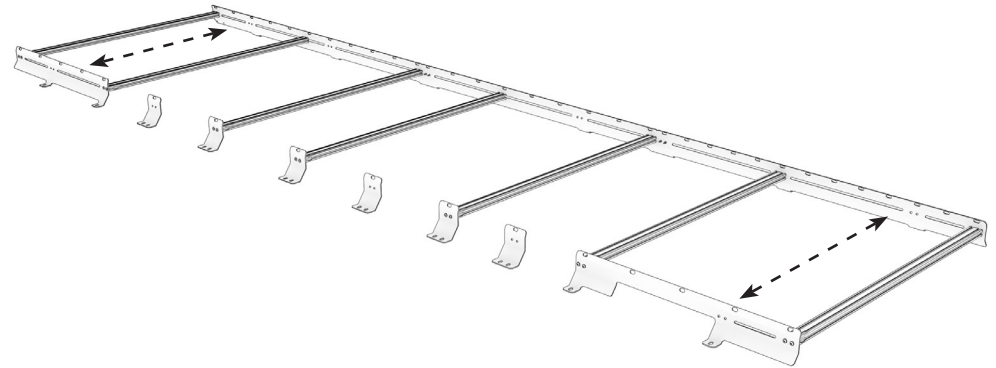

FIG 6
2.2 Install Front and Rear F80 Brackets: Next, find your **Front And Rear F80 Brackets** and Align them with the corresponding rails of the **Driver's Side** (FIG 6).
2.3 Install Center F80 Brackets: Grab your Center Brackets and space them out in between the front and rear brackets. FIG 6 and 7 depict an example layout of F80 brackets with the low pro roof rack. Loosely attach to the roof rails using the **3/8-16" Button Head Screws & 3/8" Lock Washers**.